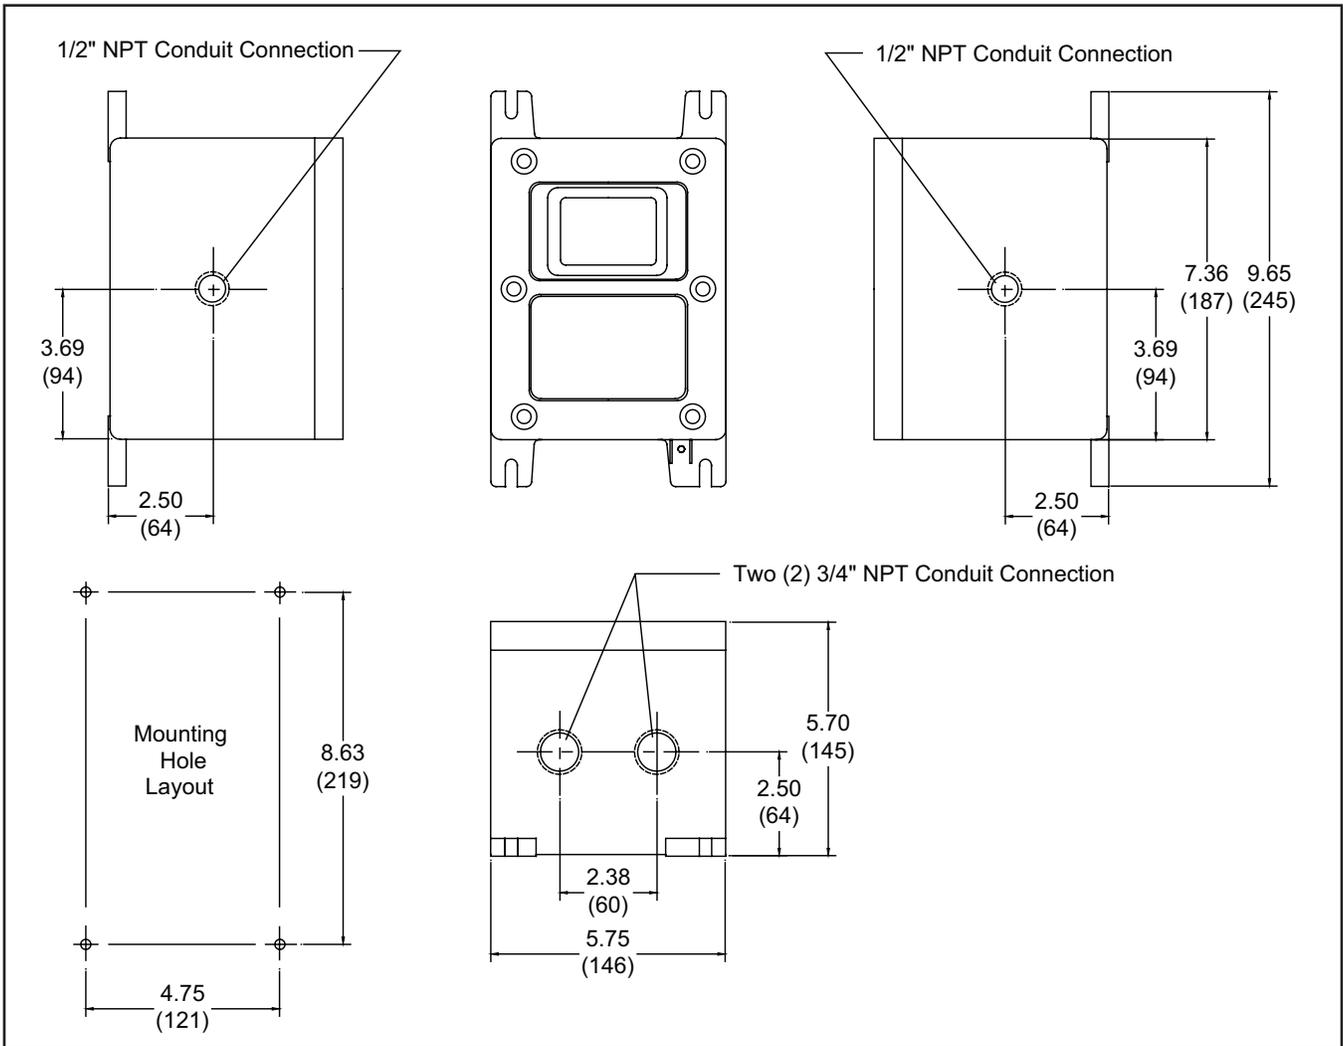

Figure 2. *microLoad.net* Dimensions
1. Mount the microLoad.net using four (4) 5/16 - 18 bolts. See Figure 2 for mounting hole layout.
3. In preparation for wiring, remove microLoad.net cover/keypad/display. This is done by removing six (6) cap screws, which hold the cover to the microLoad.net enclosure. Carefully pull the cover away from the enclosure and unplug factory-installed cables by removing the terminal blocks at the MNET circuit board. Note the position of these connections for reinstallation later.